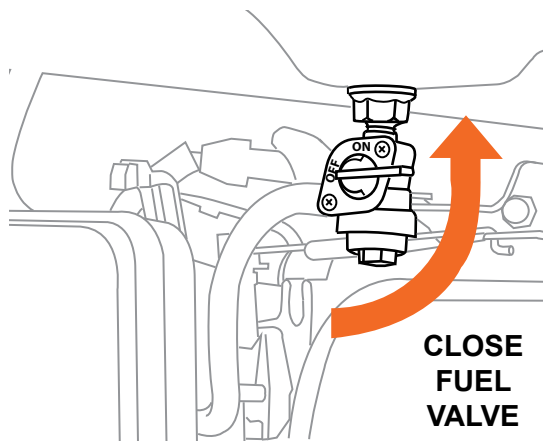

Figure 4
14. Turn the fuel valve to the OFF position (see Figure 4).